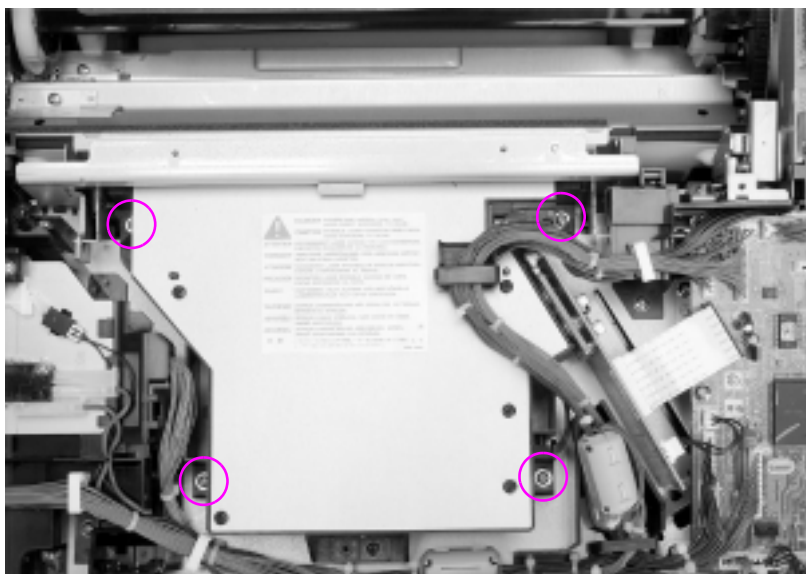

Figure 6-14 Laser/scanner assembly removal and replacement
- 8 Remove the four screws shown in Figure 6-14.